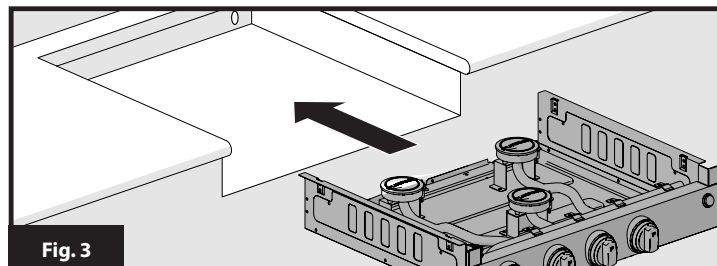

Fig. 3
4. Slide the cooktop into the cabinet opening. Verify that the cooktop is level from side to side and front to rear. (Fig. 3)